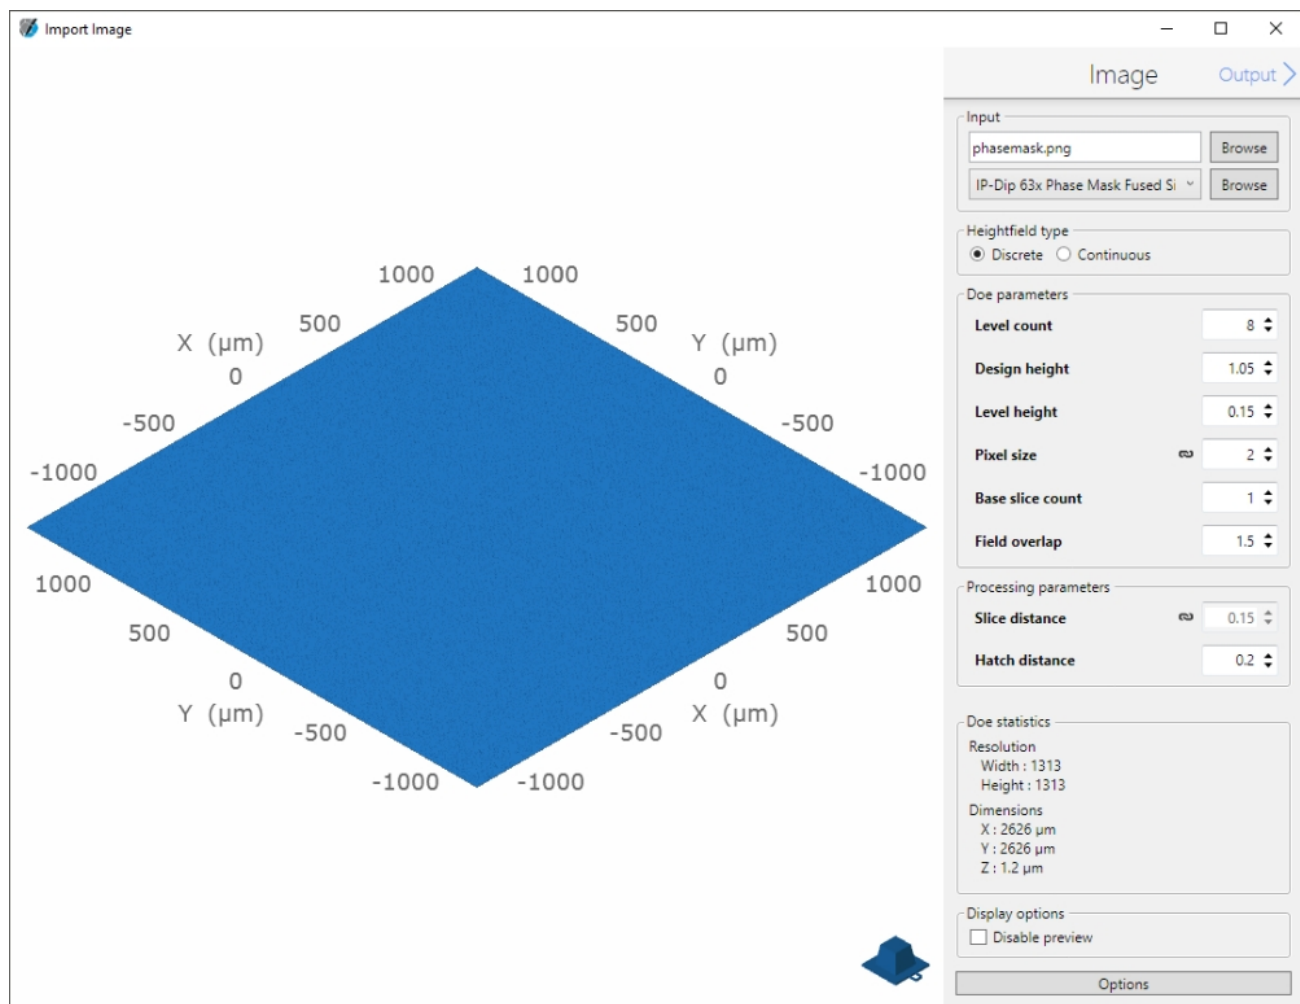

Figure 4: Import wizard for DOE printing **Height field type** **Discrete**.
Once the **phase mask** image from a image is created and is loaded into **DeScribe**, a limited number of **DOE parameters** are available. These can be set manually or are automatically defined by the selected recipe (Figures 4 and 5).
- **Level count** sets the number of discrete height values (Figures 4 and 6). Gray values imported from the phase mask will be binned correspondingly. For example, if the imported phase mask has 255 gray values, **Level count** must be set to 256 to represent all gray levels including the base layer (Figure 6-1). Setting **Level count** to 3 results in appropriate binning of several gray values (Figure 6-2). The level also determines the quality of the DOE. If too few levels are used, a centrosymmetric far-field pattern can result, whereas more levels break the symmetry as typically is desired. **Level count** is automatically set based on the input image.